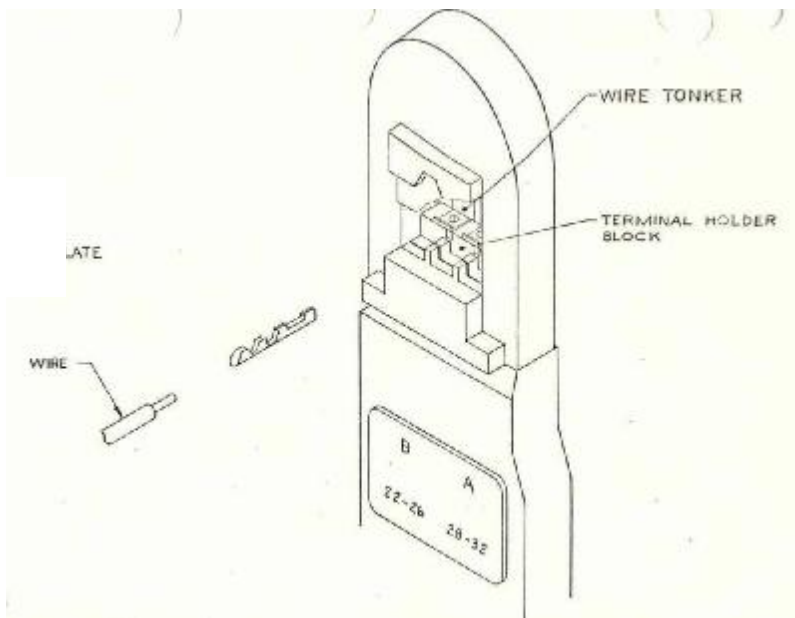

Fig. 1
1. Insert terminal into terminal holder block (Fig.1).